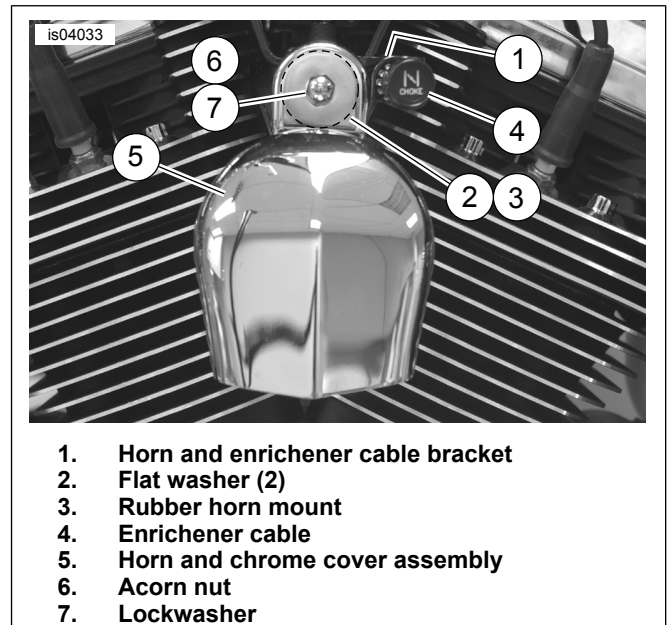

Figure 8. Horn Assembly Installation, 2004-2006 Models
- (2) 1.12 in (28.4 mm) diameter flat washers, Item 18
8. See Figure 8. Position the new horn and enrichener cable bracket (1) over the engine center mounting bracket, and secure with the two button head screws saved in step 6. Tighten the screws to 4–7 N·m (36–60 in-lbs).
9. Install one of the large diameter flat washers (2) on each threaded stud of the rubber mount (3). Insert a rubber mount stud through the slot in the enrichener bracket, and secure from behind with the 5/16-18 flanged lock nut from the kit. Tighten the nut to 6.7–20.3 N·m (60–180 in-lbs).